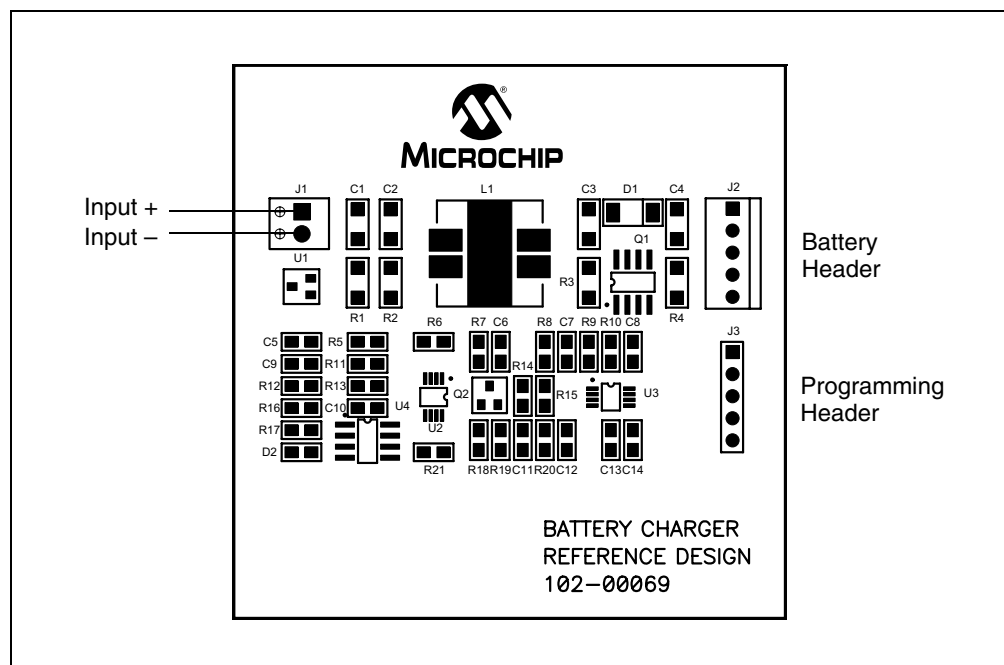

FIGURE 2-1: Setup Configuration Diagram.
2. Connect the positive side of the input source (+) to pin 1 of J1. Connect the negative or return side (-) of the input source to pin 2 of J1. Refer to Figure 2-1.